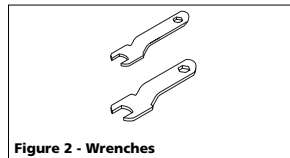

Figure 2 - Wrenches
- Securely tighten collet with wrenches (supplied with some models) (See Figures 2 & 3). Apply one wrench to the collet nut and the other to the spindle. Turn the wrench on the collet nut to the right, simultaneously turning the other wrench in the opposite direction. Make sure stem does not slip out of position.